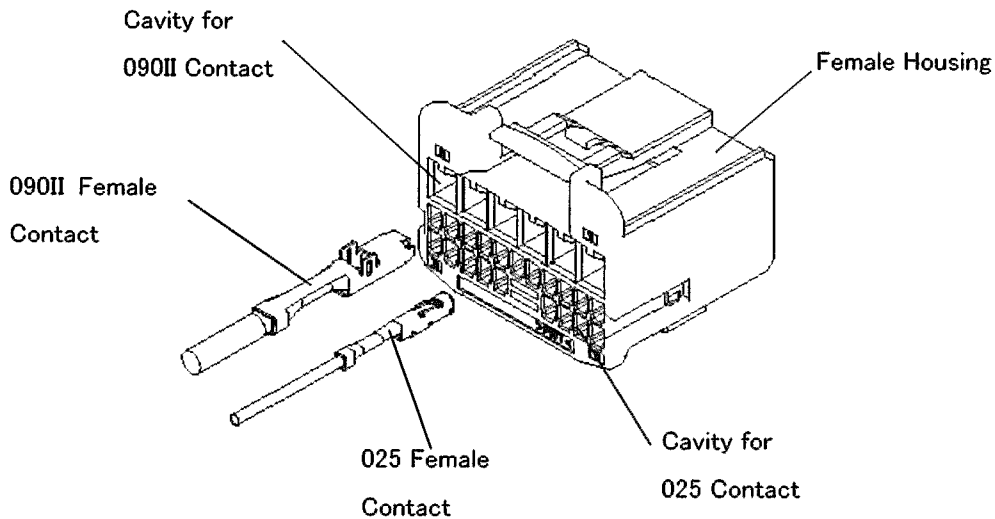

Fig.9
- (4) Insert the contacts into the housing with same direction as shown in Fig.9. The insertion is finished when the lance (025: Contact Lance, 090II: Housing Lance) is locked and the contact can not be more inserted.
- (5) By pulling the contact by 20N MAX, check to make sure that the contact can not be withdrawn.